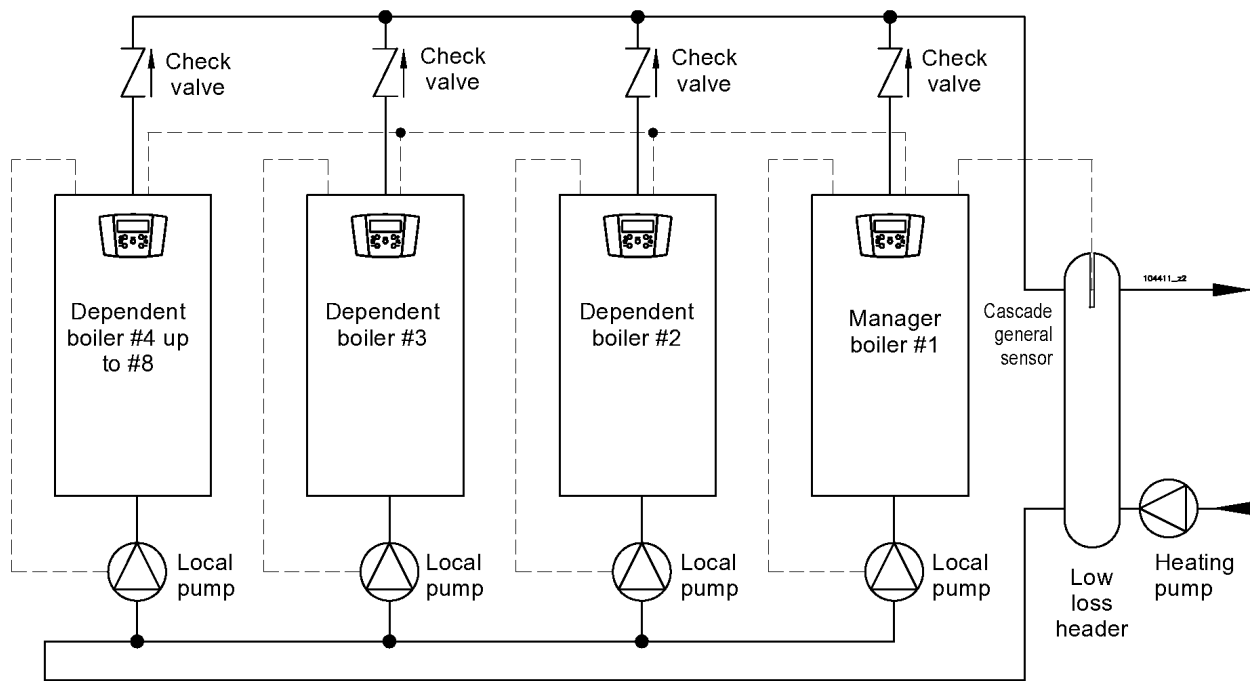

Figure 9-4 Cascade conceptual scheme (maximum 8 boilers)
Boilers can be installed in cascade, up to a maximum of 8 boilers, with a configuration like in Figure 9-4. Many other configurations can be done (ask to the manufacturer for conceptual drawings). The cascade is managed by the same control of the manager boiler.
- 1 - make piping installation as shown in Figure 9-4;
- 3 - gain access to the manager boiler (the boiler nearest the low loss header) and set parameter 3001 = 1 and parameter 3050 to a value correspondent to the number of dependent boilers (if you have 3 dependent boilers like on Figure 9-4 you have to set parameter 3050 = 3)